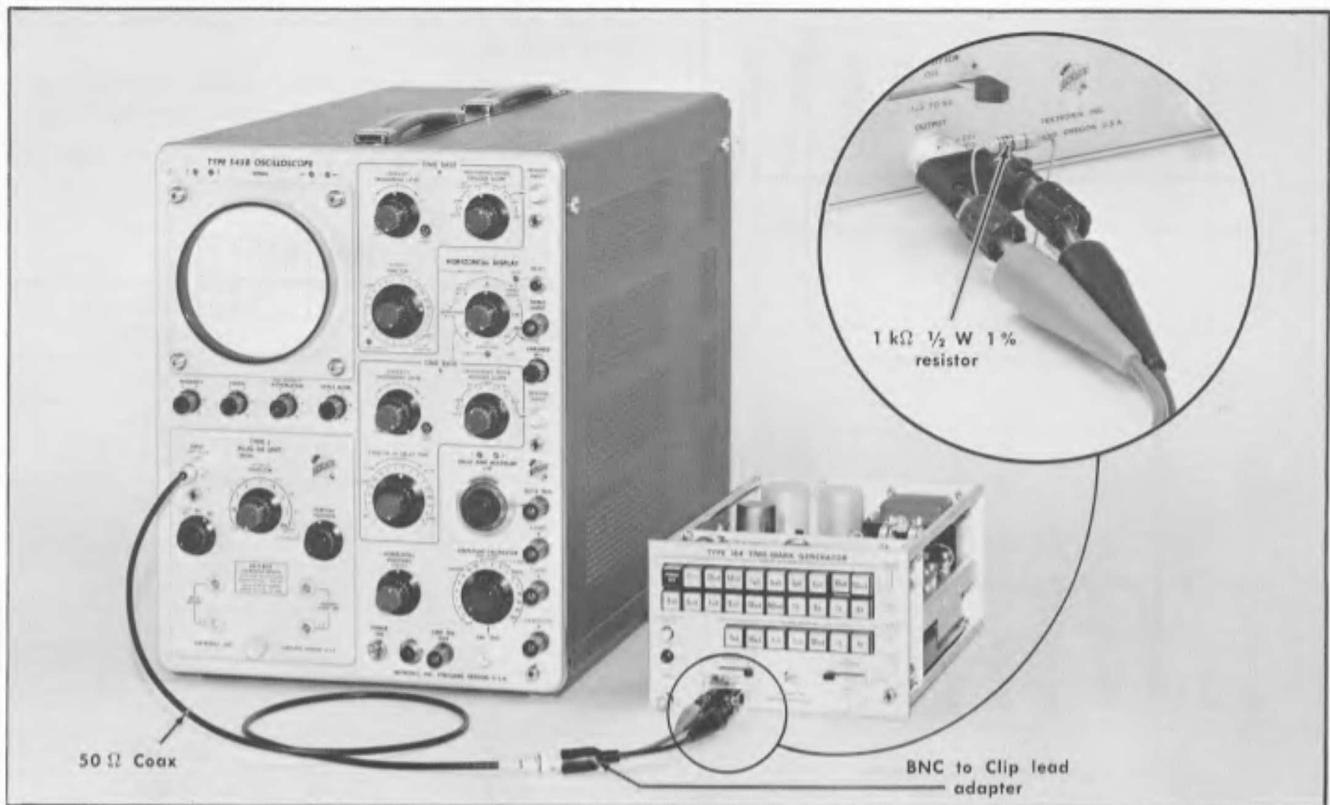

Fig. 6-13. Test equipment setup to measure Marker Amplifier signal amplitude. Step 8.
b. The Marker Amplifier must be terminated into a resistance of $1 \text{ k}\Omega$. Test equipment setup is shown in Fig. 6-13.